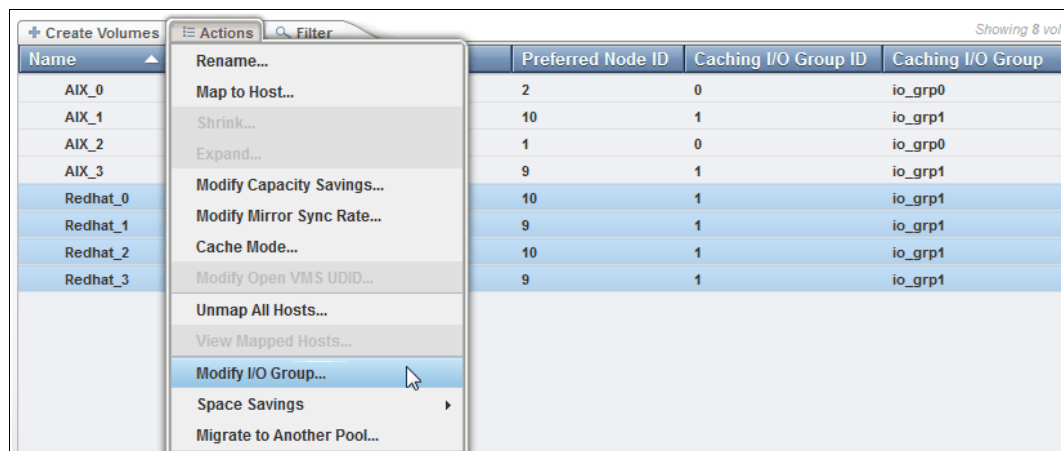

Figure 5-66 Modify I/O group
- From the Volumes menu, select the volumes to be moved to the other I/O group. Either right-click or click the **Actions** menu and select **Modify I/O Group** (Figure 5-66).